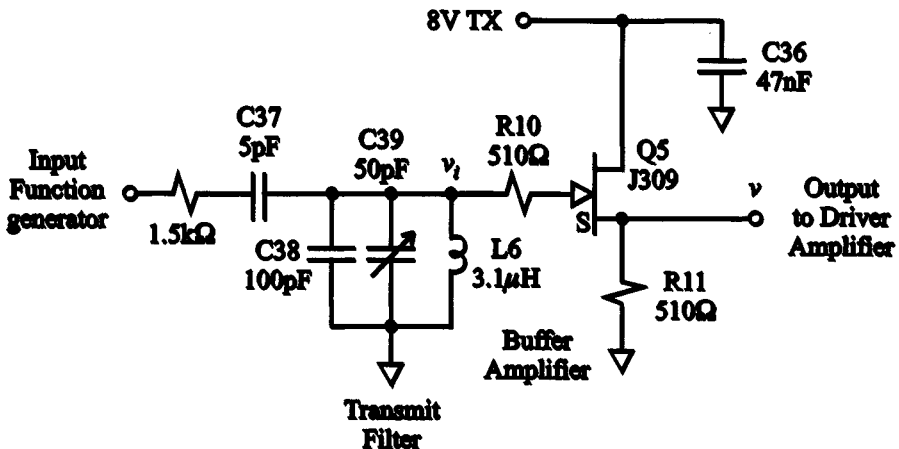

Figure 9.22. Buffer Amplifier for isolating the Driver Amplifier from the Transmit Filter.
The Driver Amplifier has an input impedance that is dominated by Miller capacitance. The effective input capacitance varies over a large range, from 10 pF at low gain to 105 pF at high gain. In the transceiver, the input for the Driver Amplifier comes from the Transmit Mixer, after passing through the Transmit Filter. A large change in load capacitance would upset the filter resonance if we put the filter output into the Driver Amplifier directly. In order to isolate the filter from changes in the driver amplifier, the transceiver has a JFET Buffer Amplifier (Figure 9.22). The Buffer Amplifier is a source-follower circuit, which has a high input impedance but no voltage gain.
- C. Next we measure the voltage gain of the Buffer Amplifier. This is tricky, because the scope probe affects the resonance of the filter, and the filter must be tuned each time the probe moves. The gain of the Driver Amplifier should be left at its minimum value. Connect the function generator to the circuit through the 1.5-k Ω resistor. Initially the 10:1 scope probe should be attached to the filter end of R10 (Figure 9.22) to measure the input voltage v_i . Set the frequency to 7 MHz and the amplitude to 1 Vpp. The probe capacitance affects the filter resonance, and you should adjust C39 to give a maximum probe voltage. The adjustment is coarse, and the capacitance and pressure of the screwdriver affect the capacitance. You can find the maximum voltage by varying the frequency a few kilohertz. Record the maximum input voltage. Now move the probe to R11 to measure the output voltage v . You will need to adjust C39 again. Find the voltage gain G_v , given by